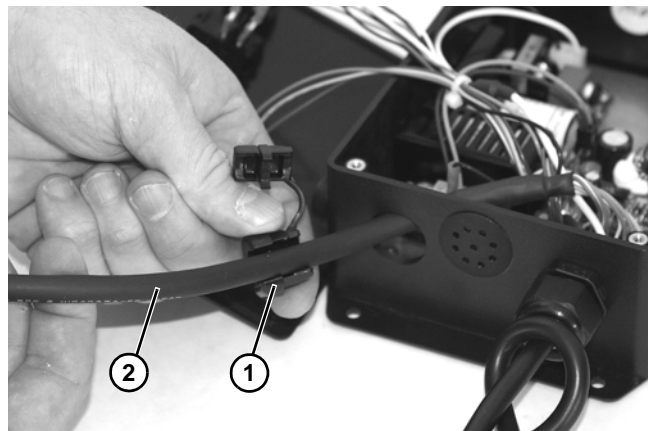

Figure 37
4. Remove cord retainer (Figure 37, item 1) from cord (Figure 37, item 2).